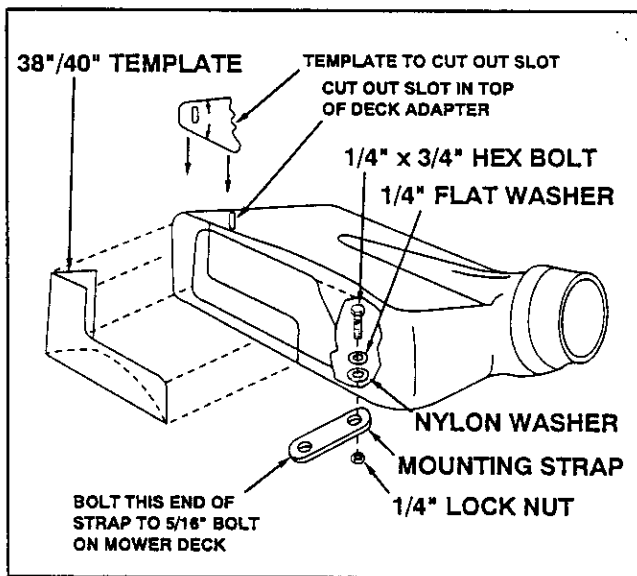

FIGURE 34
- Cut out two templates and place on deck adapter as shown in figure 34. Tape smaller one on top and larger one on the side and bottom. After they are in place, carefully mark around the templates, then cut out adapter to obtain correct opening.
- Bolt end of mounting strap to the 5/16" bolt on the mower deck. The other end of the strap will bolt to a hole in the deck adapter, which must be drilled. Position the adapter on the deck, then drill a 5/16" hole in the bottom of the adapter that will align with the hole in the strap. Fasten the adapter to the strap using a 1/4" x 3/4" hex bolt, 1/4" flat washer, nylon washer and 1/4" lock nut. See figure 34.